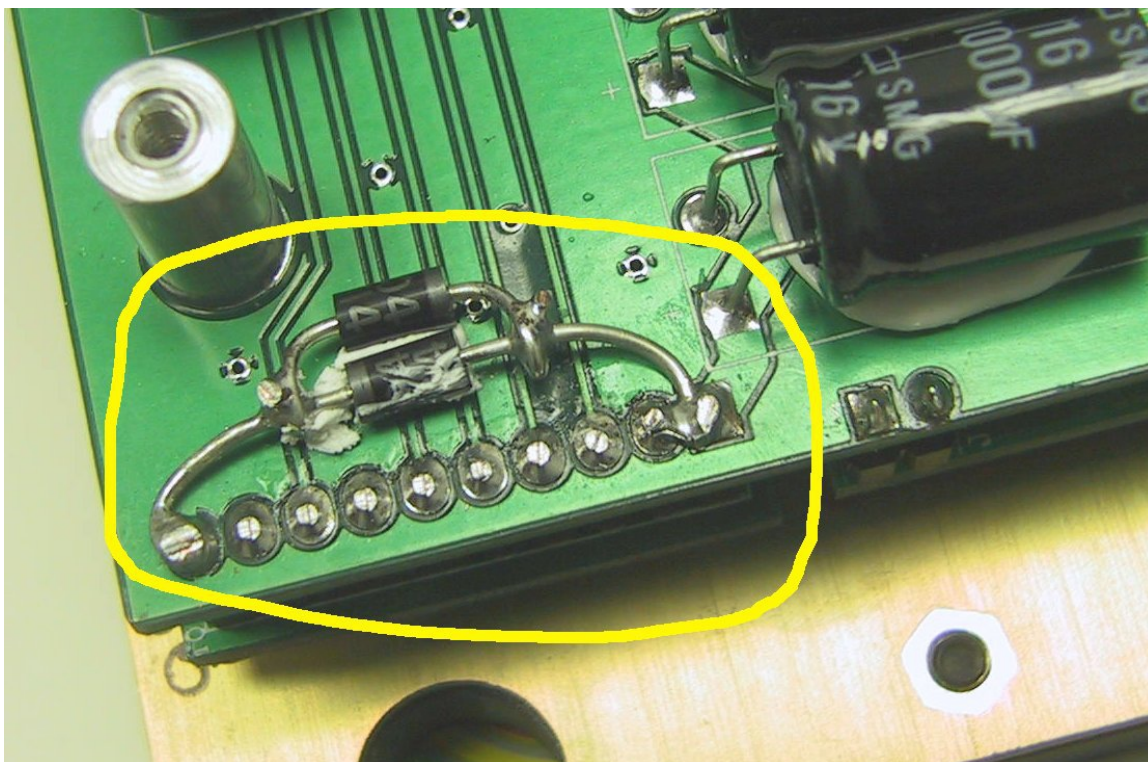

Figure 4. MOD 2c - Back-to-back diodes across Vled & Vlog.
4. As shown in Figure 4: On the back of the Front Panel Board (ASSY# 983367-2) mount the diodes with a small dot of RTV, and then solder to Display Board Connector pins as shown in Figure 4.